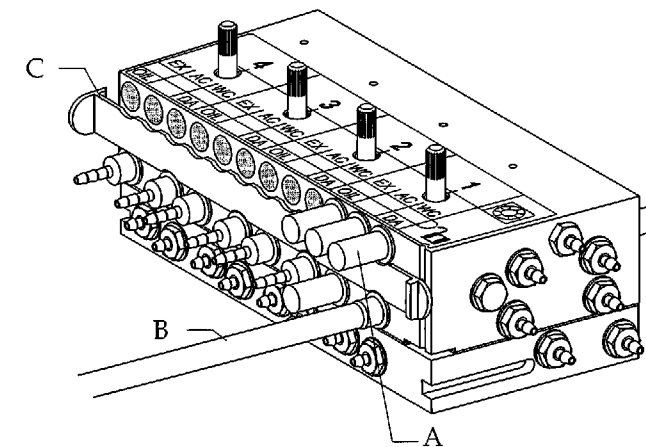

Figure 90. Attaching the drive air (clear) quick connect tubing to the control block. (A) control block plugs; (B) drive air tubing; (C) slidlock
3. Remove the QD barb from the red exhaust line by making a diagonal cut just after the barb. Cable tie the unused tubing to the structural platform (see Figure 90).